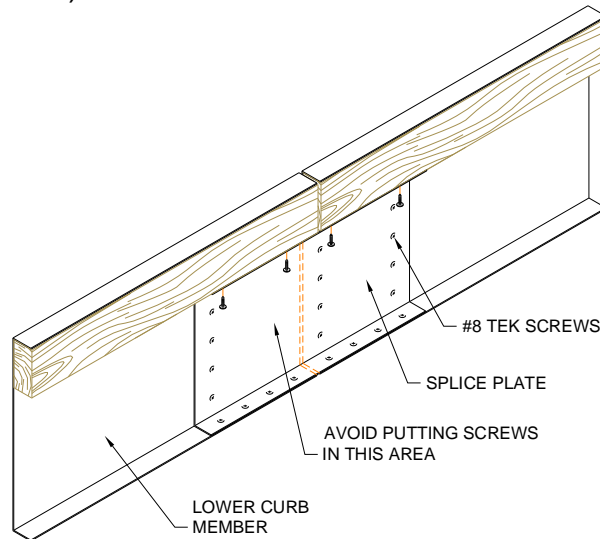

Figure 2.1
- A. Locate two sides with the same side rail identifier (Rail A, B, C, D). Remove from the shipping carton (2) bottom splice plates, and (2) top rail splice angles. Butt the two side members to be spliced together so that the squared off ends of both the top rail and bottom curb contact one another. Using #8 TEK screws provided, screw the lower curb members together as shown in figure 2.1. (IMPORTANT! Do not install any screws within 4 inches of one side of the splice joint and on the same area of the opposite side of the curb as a cross brace will be installed later at this location.)